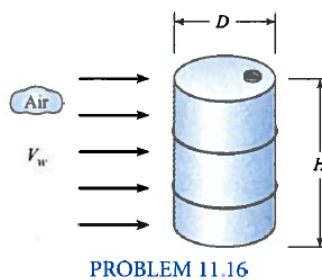

Figure 1: Wind blowing over a storage drum
1. Figure 1 is a schematic of wind blowing on a petroleum storage drum. Estimate the wind speed (in meters per second) needed to tip the drum over.